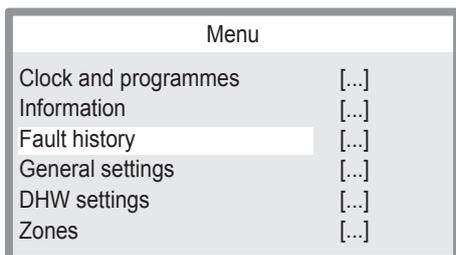

Figure 4.3
- 2 Press key "A" or "B" (Figure 4.1) to select the desired menu (Figure 4.3).